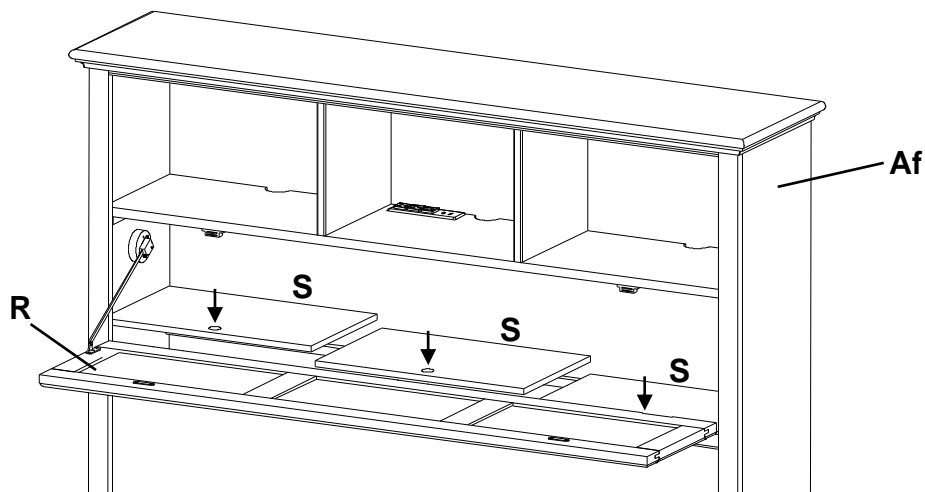

Fig. 15
15. Unwrap the False Bottoms (S) and place them on top of the rails in the Headboard Assembly (Af). Make sure the finger holes face forward as shown in Figure 15. After you have placed your electronics inside the cubbies, use the Wire Clips (ZS) on the underside of the cubbies to secure the wires. Close the door tightly making sure the magnetic catches and plates securely touch.